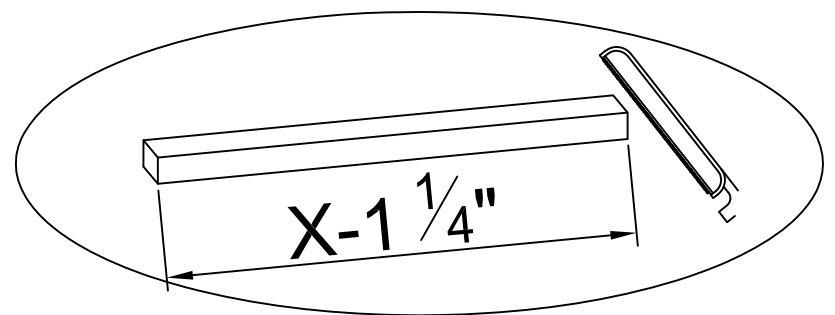

Fig.37
Cut the threshold bar (11) to the size of :  $(X) - 1\frac{1}{4}$ ". Remove any sharp edges or burrs after cutting Door Threshold bar (11). See Fig.37 for details.